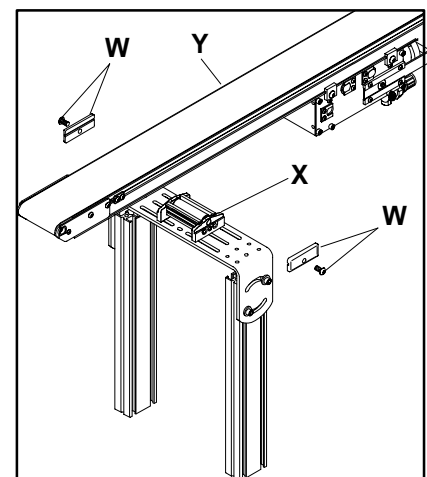

Figure 11
Temporarily remove the screws and mounting clamps (W of Figure 11) from all support stand mounting brackets and return roller assemblies (X) from both sides of the conveyor (Y).
Temporarily remove the screws and mounting clamps (W of Figure 11) from all support stand mounting brackets and return roller assemblies (X) on both sides of the conveyor (Y).
Lift up on the conveyor frame (Y) and slide the new conveyor belt in and onto the conveyor frame. Then, re-attach the conveyor to the stands by replacing and securing the mounting clamps (W of Figure 11).